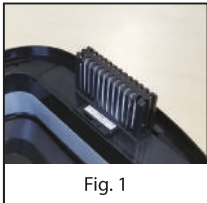

Fig. 1
2. Slide Deodorizer Compartment (Fig.1) to the right (Fig.2) to remove.
6. Return the Deodorizer Compartment to Lid Cover (Fig.1) and slide to the left (Fig.2) to lock the Deodorizer Compartment in position.